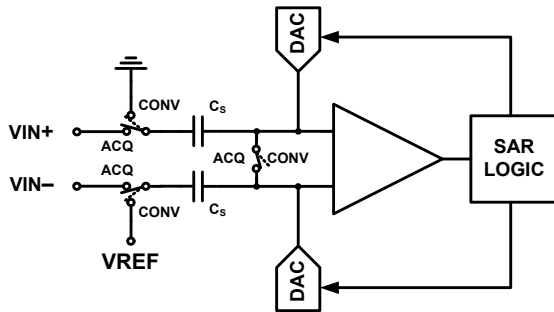

FIGURE 21. SAR ADC ARCHITECTURAL BLOCK DIAGRAM
The ISL267440, ISL267450A are based on a successive approximation register (SAR) architecture utilizing capacitive charge redistribution digital to analog converters (DACs). Figure 21 shows a simplified representation of the converter. During the acquisition phase (ACQ) the differential input is stored on the sampling capacitors (CS). The comparator is in a balanced state since the switch across its inputs is closed. The signal is fully acquired after t_{ACQ} has elapsed, and the switches then transition to the conversion phase (CONV) so the stored voltage may be converted to digital format. The comparator will become unbalanced when the differential switch opens and the input switches transition (assuming that the stored voltage is not exactly at mid-scale). The comparator output reflects whether the stored voltage is above or below mid-scale, which sets the value of the MSB. The SAR logic then forces the capacitive DACs to adjust up or down by one quarter of full-scale by switching in binarily weighted capacitors. Again, the comparator output reflects whether the stored voltage is above or below the new value, setting the value of the next lowest bit. This process repeats until all 12 bits have been resolved.